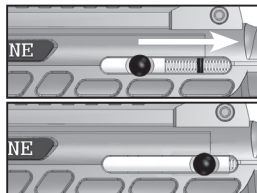

Figure 2: Pull the Bolt Handle back until it locks into place.
- f. If you want to put the marker into the uncocked position, (refer to Figure 2) pull and hold the bolt cocking handle back. While holding onto the cocking handle, pull the trigger and allow the cocking handle slowly move forward, which uncocks the marker.